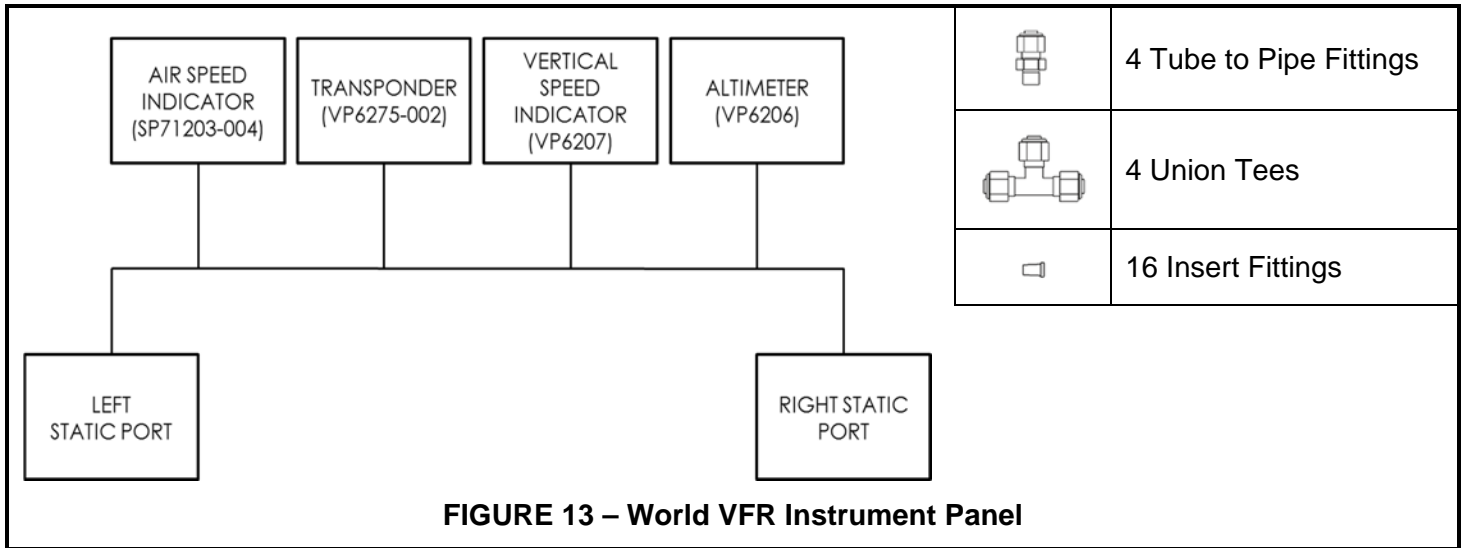

FIGURE 13 – World VFR Instrument Panel
- WORLD VFR Instrument Panel: skip to Figure 13.